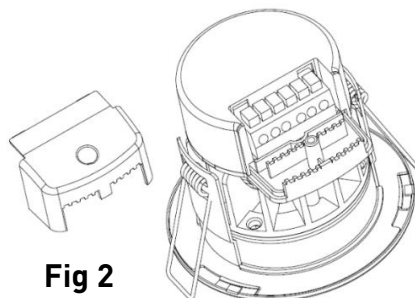

Fig 2
- With the aid of a cross-head screwdriver, remove the cover to access the mains terminal block (see Fig 2)